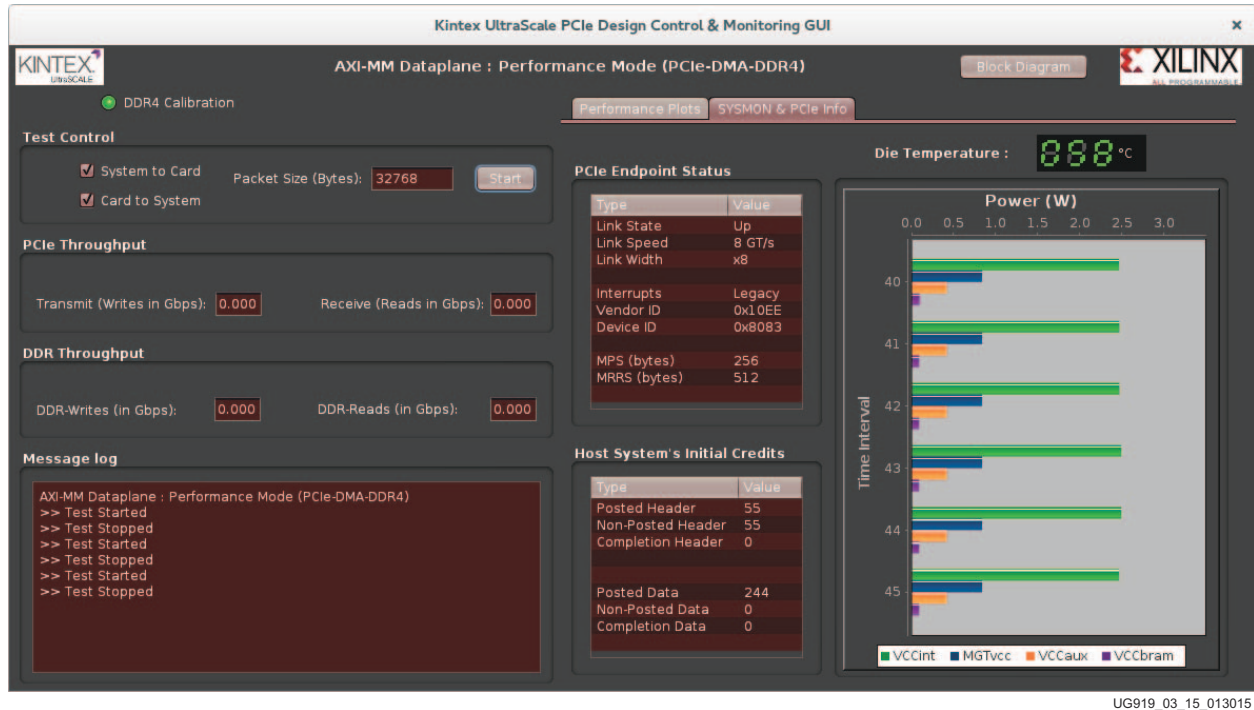

Figure 3-19: SYSMON and PCIe Information
3. PCIe endpoint Status, Host system Initial Flow control credits can be viewed in the middle portion of the GUI. Power and Die temperature monitoring performed by the SYSMON block in the FPGA can be viewed by clicking the **SYSMON & PCIe Info** tab (Figure 3-19).